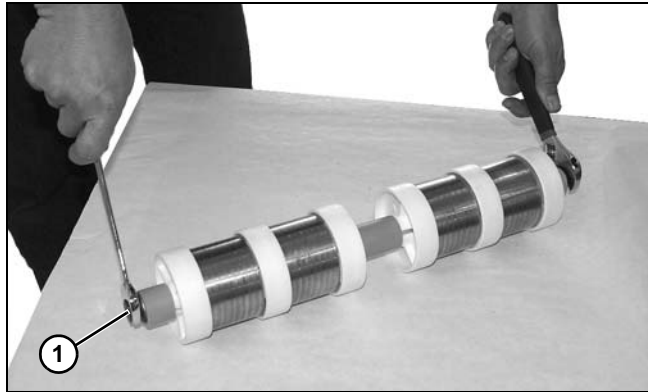

Figure 123
5. Use wrenches to remove bolt (**Figure 123, item 1**) from each side of roller assembly.